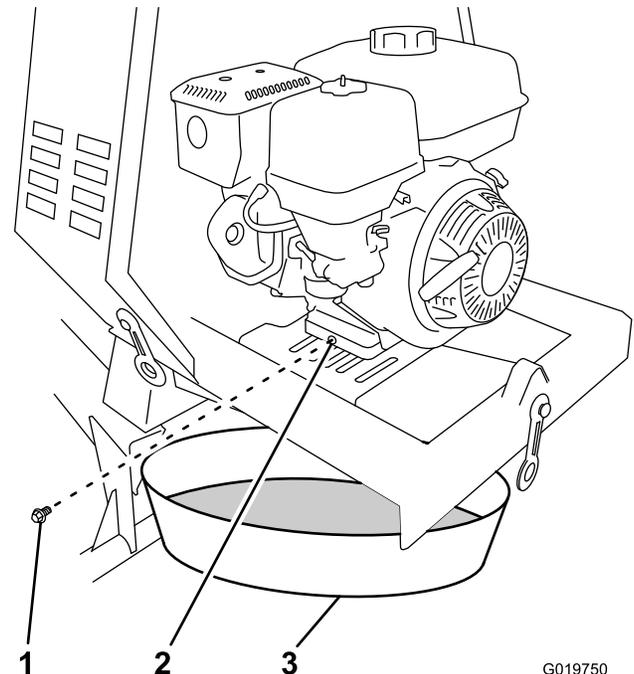

Figure 45
- Place a drain pan under the oil drain hole of the engine (Figure 45).
- Remove the drain plug and catch the oil in the oil drain pan (Figure 45).
- When the oil has drained completely, install the drain plug with a new washer (Figure 45).